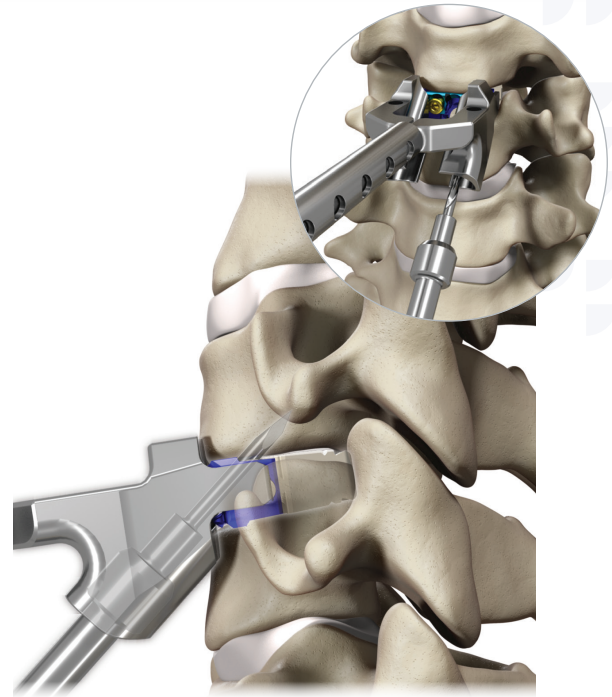

Figure 69
- Assemble the awl/drill to the modular spin cap handle. Create a pilot hole for the first lateral screw hole by placing the awl/drill through the guide hole of the ATO inserter guide until the positive stop contacts the ato inserter guide. The awl/drill will create a pilot hole 6 mm deep on the screw hole axis (40°). Intra-operative imaging should be used to verify awl/drill position and determine the appropriate length screw. Remove the awl/drill. Repeat the same steps on the contralateral side (Figure 69).